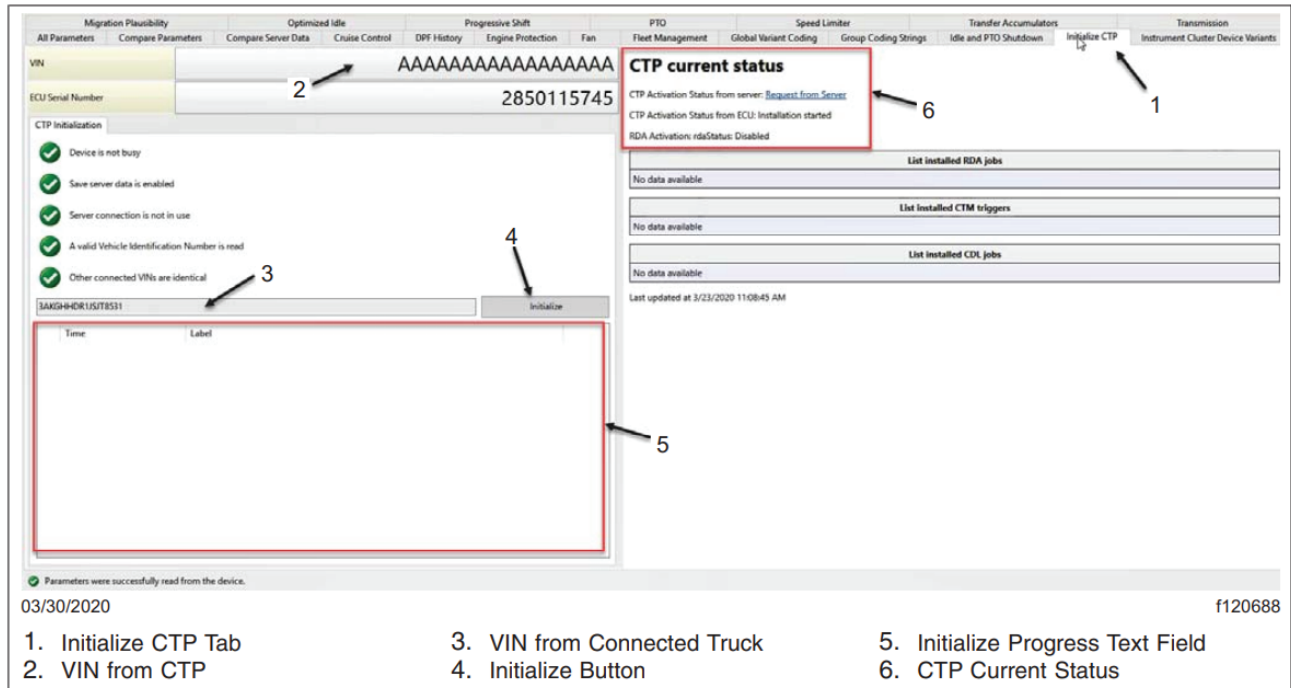

Figure. 8, Initialize Truck Data Center Panel
21. Navigate to "Parameters", allow the parameters to be read and then select the "Initialize CTP" tab. See Figure. 8